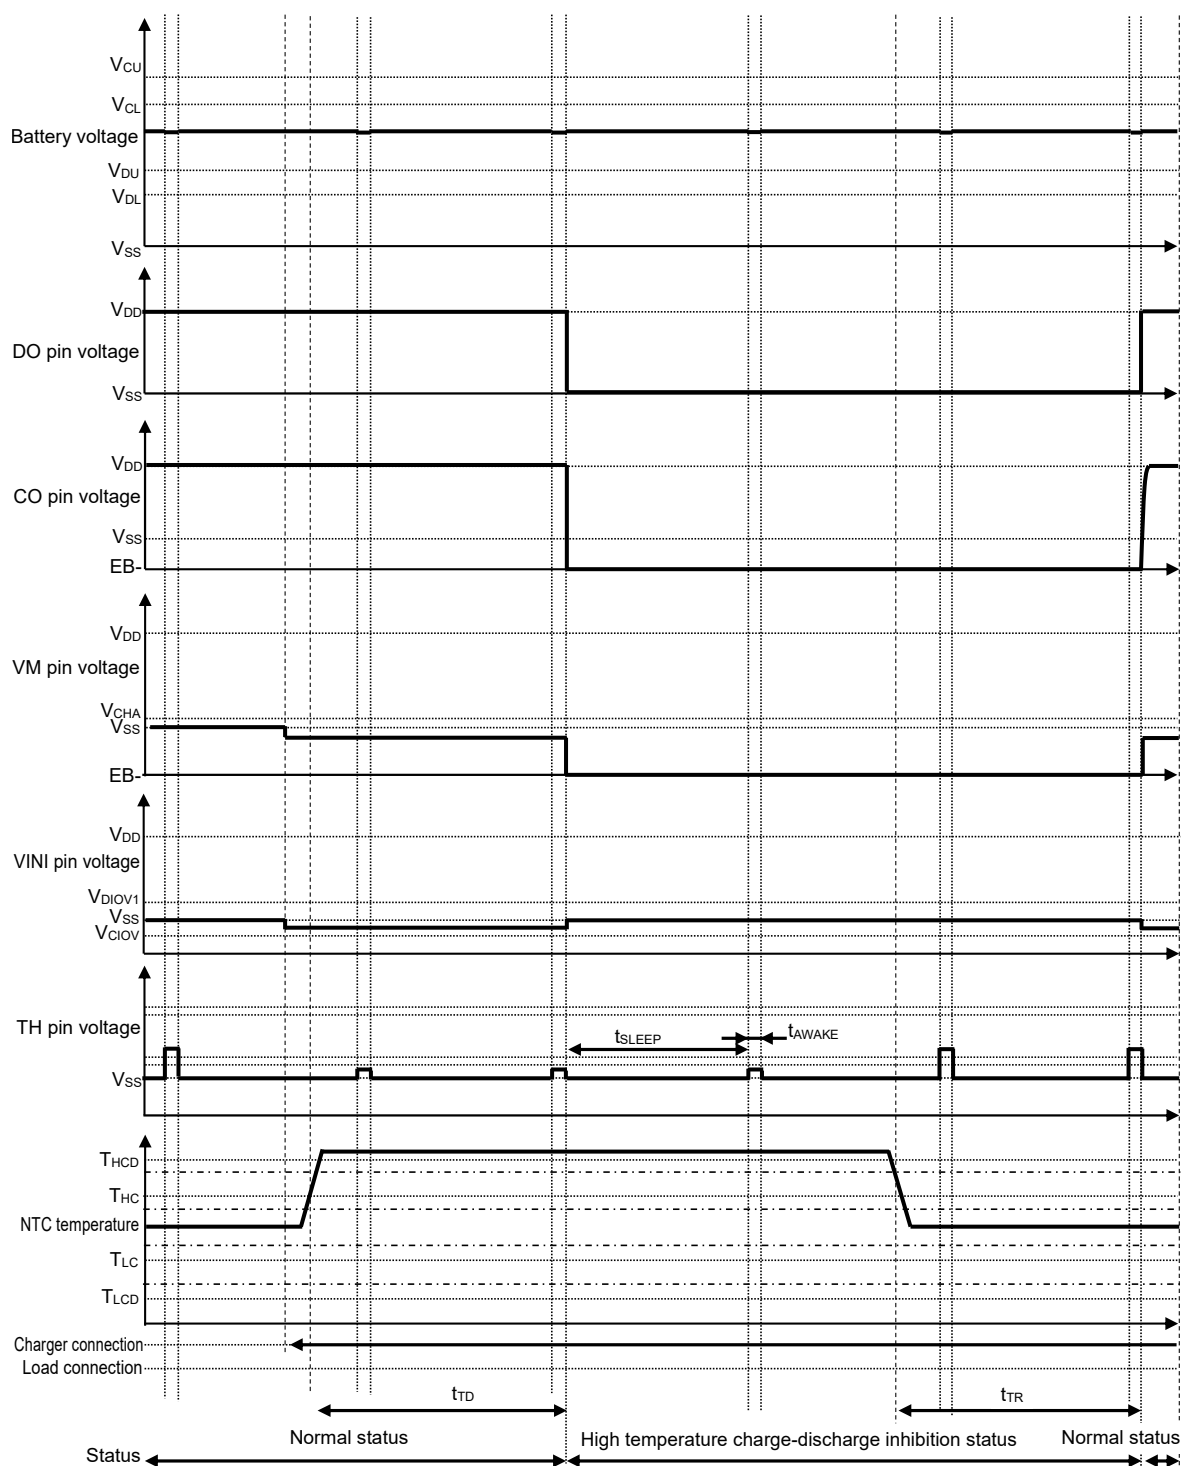

Figure 15
**Remark 1.** Figure 15 shows a time chart when  $N = 2$  and the temperature of an NTC thermistor changes from below  $T_{HC}$  to above  $T_{HCD}$ .